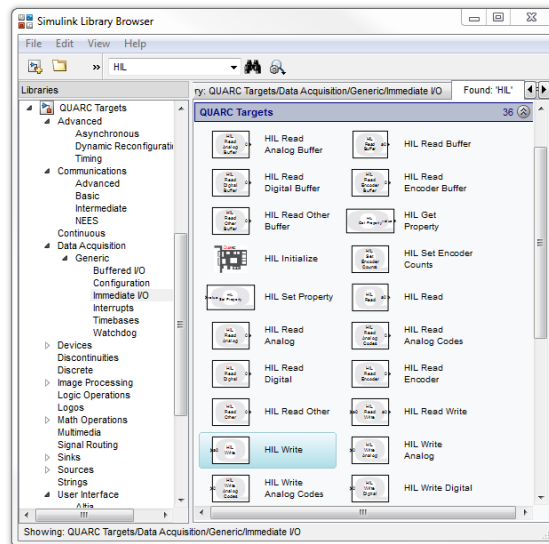

Figure 2.2: QUARC Targets in SIMULINK® Library Browser
4. Expand the **QUARC Targets** item and go to the *Data Acquisition | Generic | Configuration* folder, as shown in Figure 2.2.